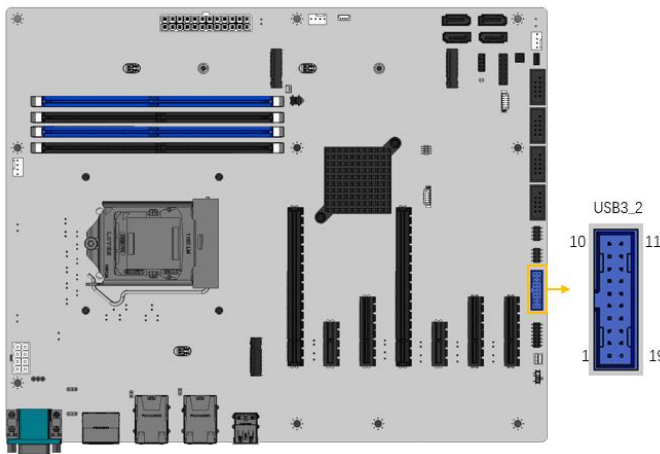

Figure 3-29: Internal USB 3.2 Gen 1 Connector Location
- CN Location:** See Figure 3-29